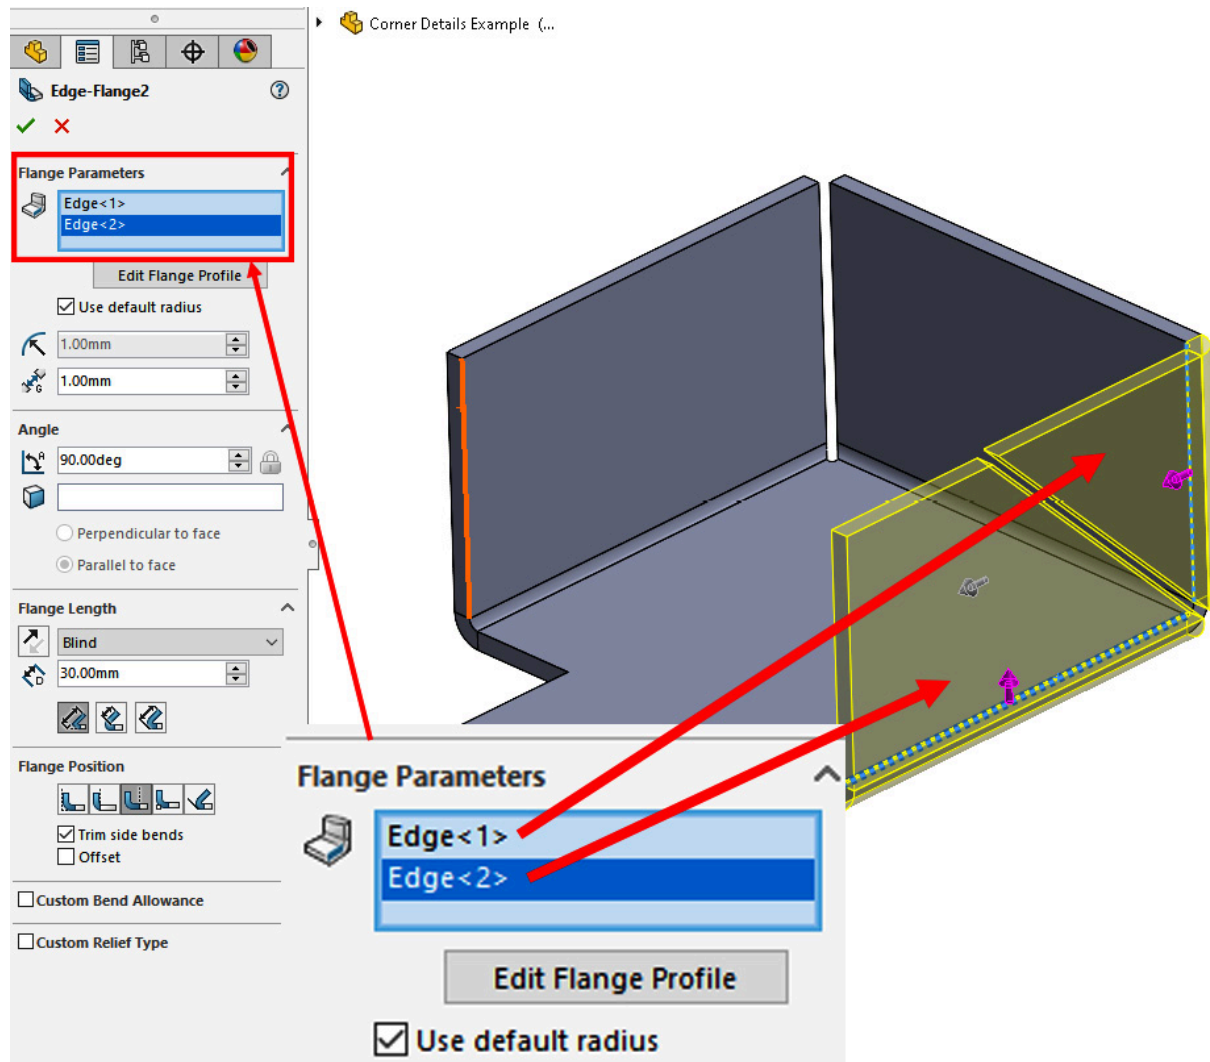

Figure 9.17: Adding a 3 Bend Corner
1. Continuing with the previous model, add two further **Edge Flanges** as shown in *Figure 9.17*. This will create a 3 Bend Corner (we have just added two more bends, and we previously had one bend from the first set of **Edge Flanges**).